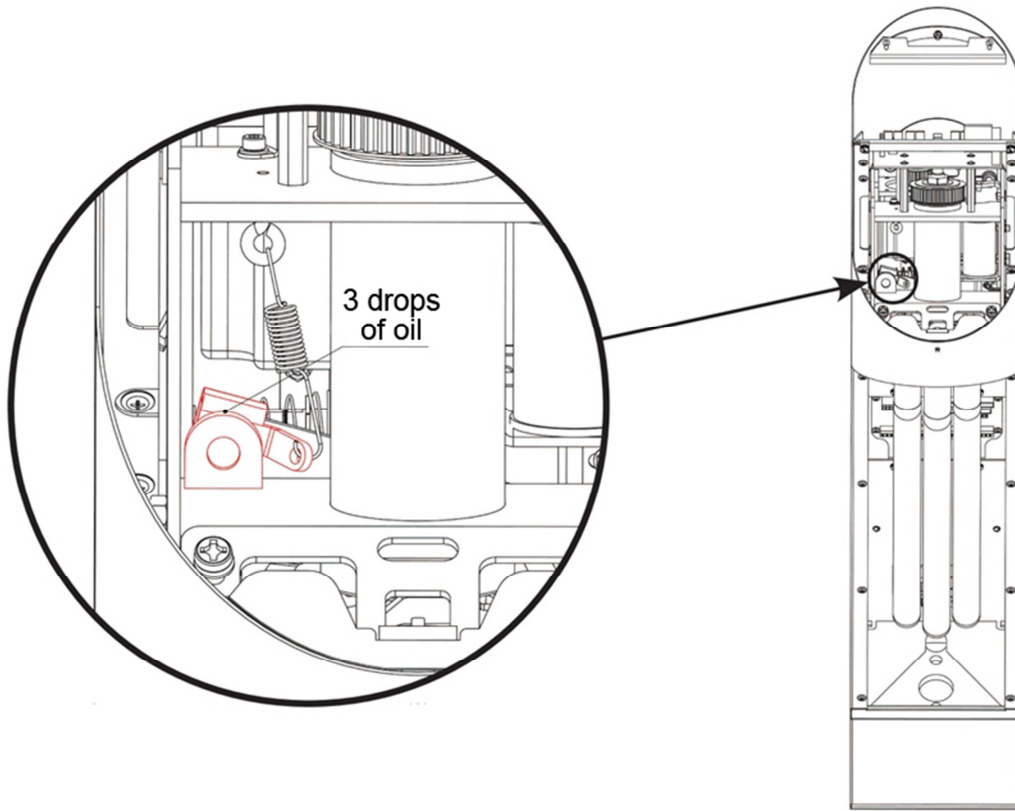

Fig.13
5.2. The rotation axis of the roller lever (Fig. 13).
Elements of the unit are located behind the roller lever shown on Fig. 13